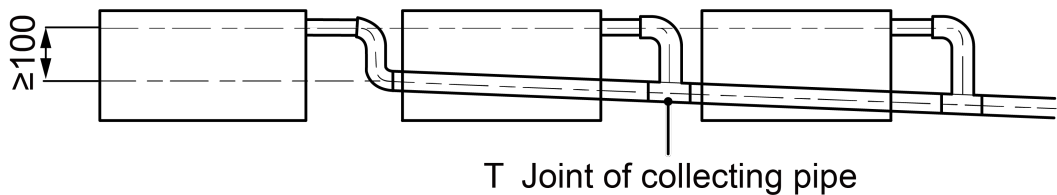

Fig 4.11
- (4) When connecting several drain pipes, follow the instruction as indicated in Fig4.11. Choose the drain collecting pipe that matches with unit capacity.